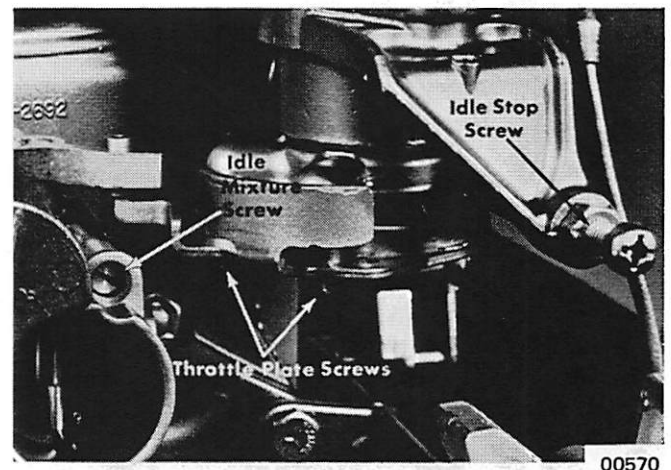

Figure 2. Full Throttle Adjustment
- Advance magneto against magneto stop. Loosen 2 screws on carburetor pickup plate and adjust to obtain full throttle, then tighten screws. Allow .010" (.254mm) to .015" (.381mm) play in carburetor shaft to prevent forcing linkage. (Figure 2) Do not bend pickup with nylon sleeve.